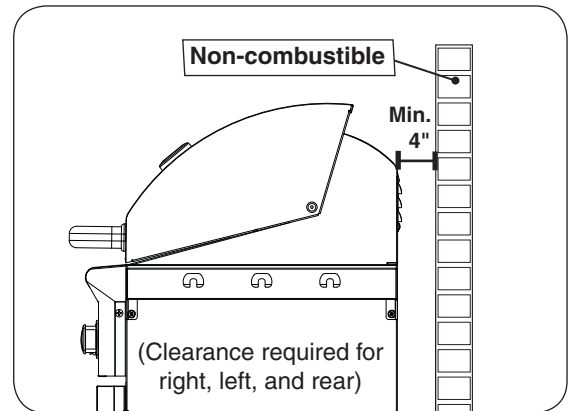

Fig. 9-2 Clearance 'B' Diagram
B. Clearance between grill and strictly non-combustible wall (i.e. brick wall, see Fig. 9-2)